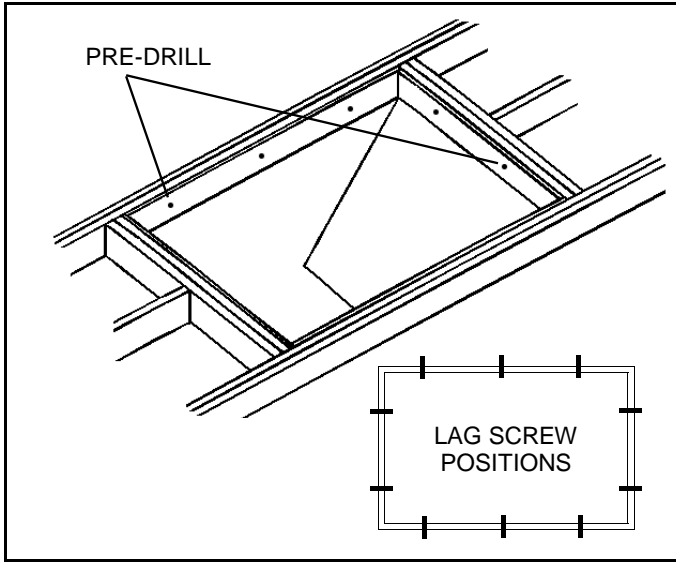

Figure 8
1. Mark location of lag screws. Pre-drill pilot holes, shim and screw stair frame to headers using three lag screws on each long side and two on each end. Figure 8.